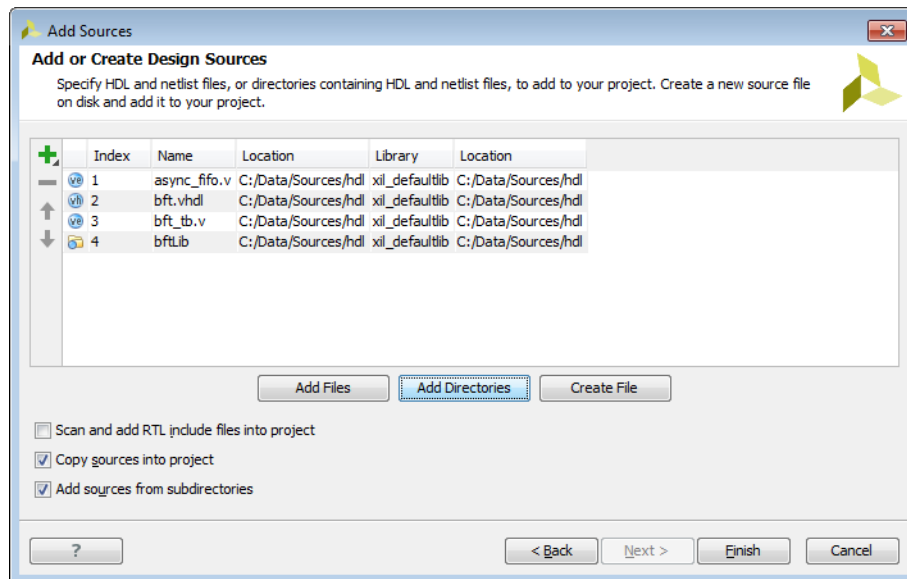

Figure 3-2: Add Sources Wizard—Add or Create Design Sources Page
3. In the Add or Create Design Sources page (Figure 3-2), press the '+' button and select the **Create File** command from the sub-menu to create new source files.
3. In the Add or Create Design Sources page (Figure 3-2), set the following options, and click **Finish**.